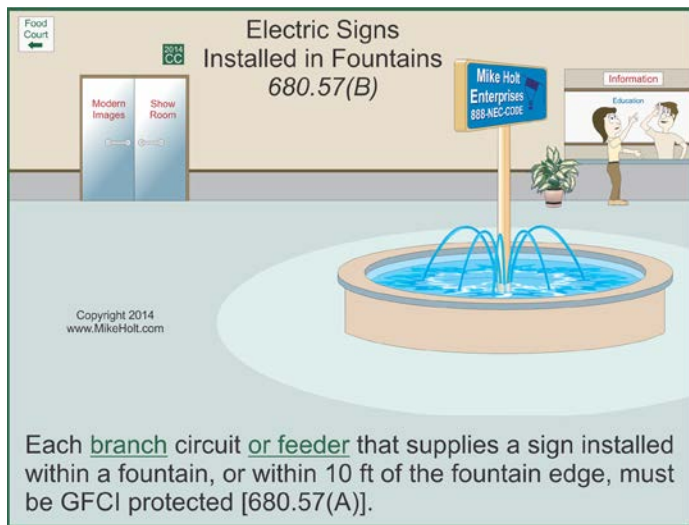

Figure 680–62
(B) GFCI Protection of Sign Equipment. Each branch circuit or feeder that supplies a sign installed within a fountain, or within 10 ft of the fountain edge, must be GFCI protected [680.57(A)]. Figure 680–62